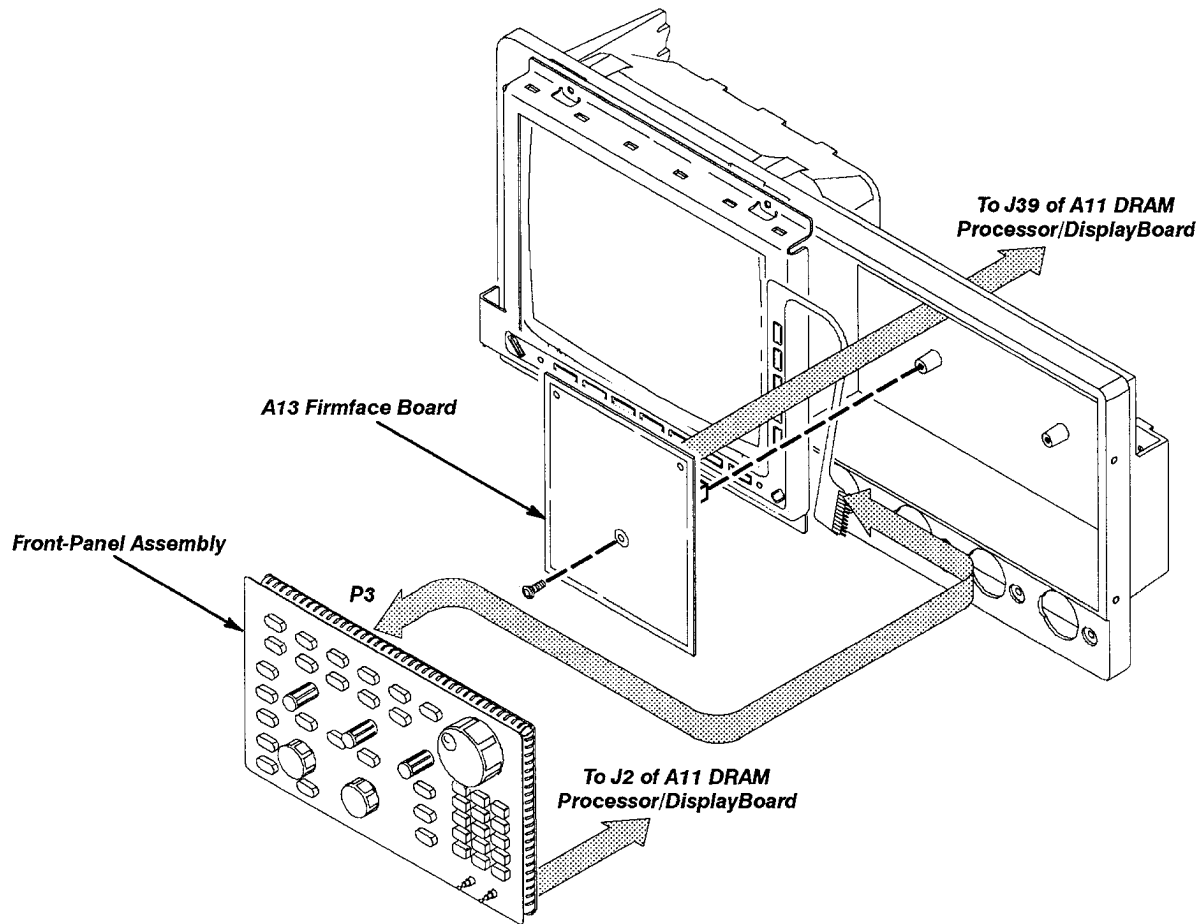

Figure 6-8: A12 Front-Panel Assembly and A13 Firmface Board Removal
5. *Remove the firmface board:* Remove the three screws that secure the firmface board to the front subpanel. Now, grasp the firmface board and lift it straight out, disconnecting it from the processor/display board at J39, which is connected to J2 of the firmface board. (See Figure 6-8 on page 6-25.)
6. *Reinstallation:* If the front-panel assembly was further disassembled in step 4, then reverse substeps 4a–4c to reassemble, using Figure 6-8 as a guide. Then do in reverse order steps 3 and 5, reversing the procedure outlined in each step. Last, reinstall the trim ring and, if desired, the front cover, referring to the procedure *Front Cover, Trim Ring, Menu Buttons, and Attenuator Panel* (page 6-22).